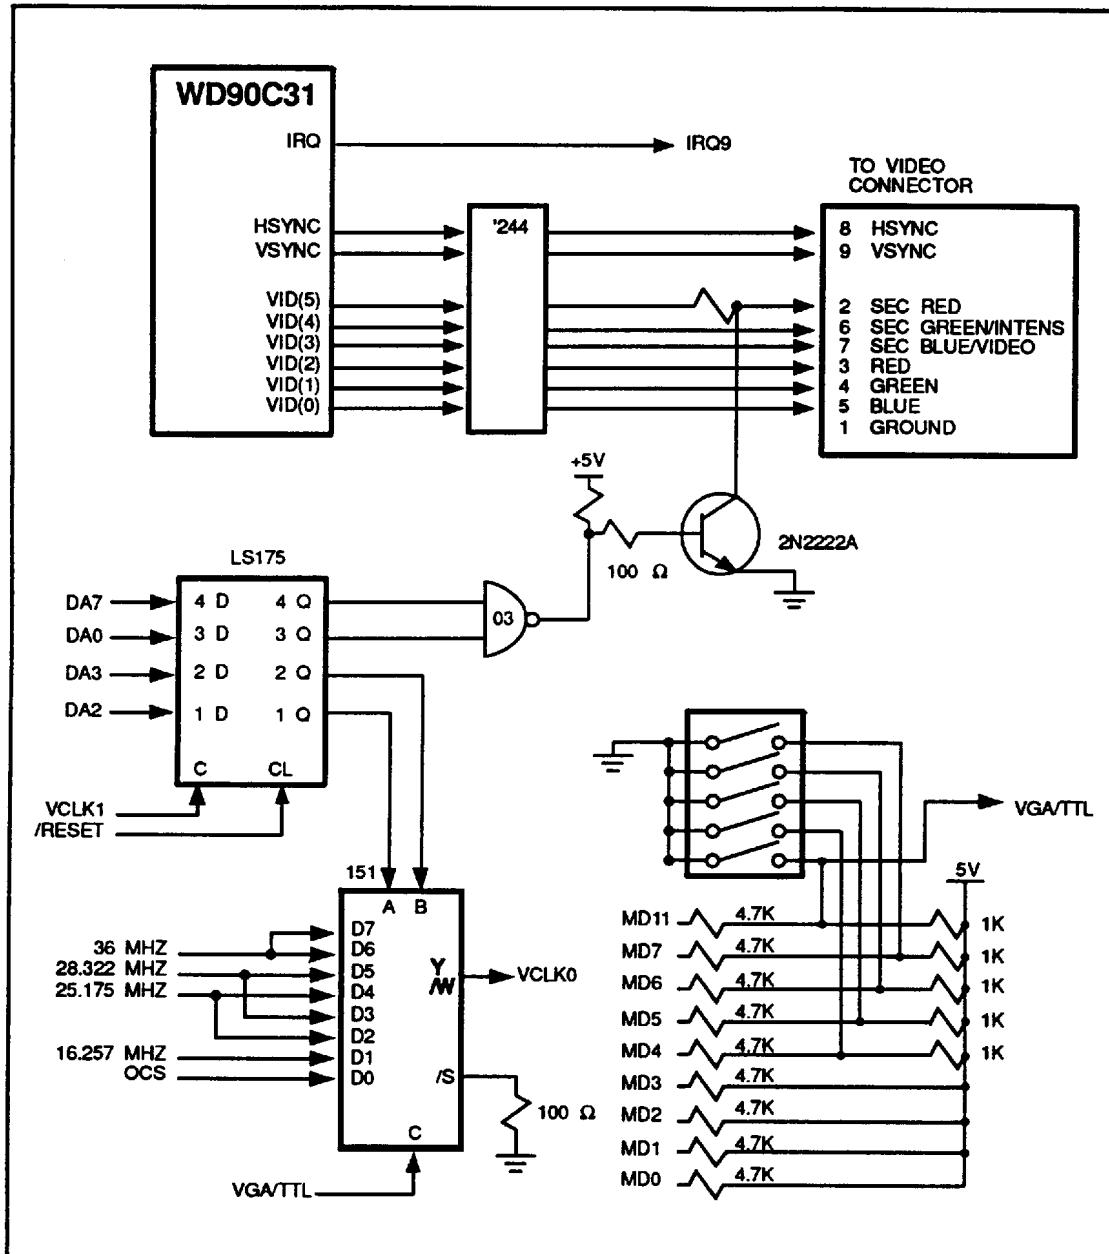

FIGURE 3-11 TTL MONITOR INTERFACE
- Figure 3-11. TTL Monitor Interface
Figure 3-11 shows the connections required to interface a TTL Monitor to the WD90C33 Controller.